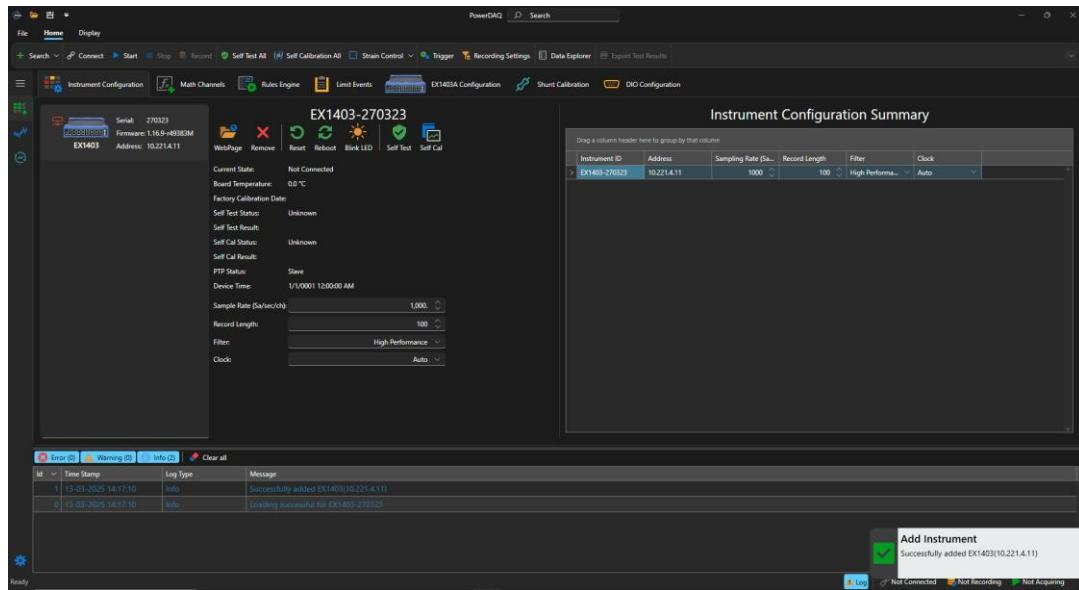

Figure 18. Instrument Added
5. The newly added instrument will appear in the Instrument Configuration Summary as shown in Figure 18.